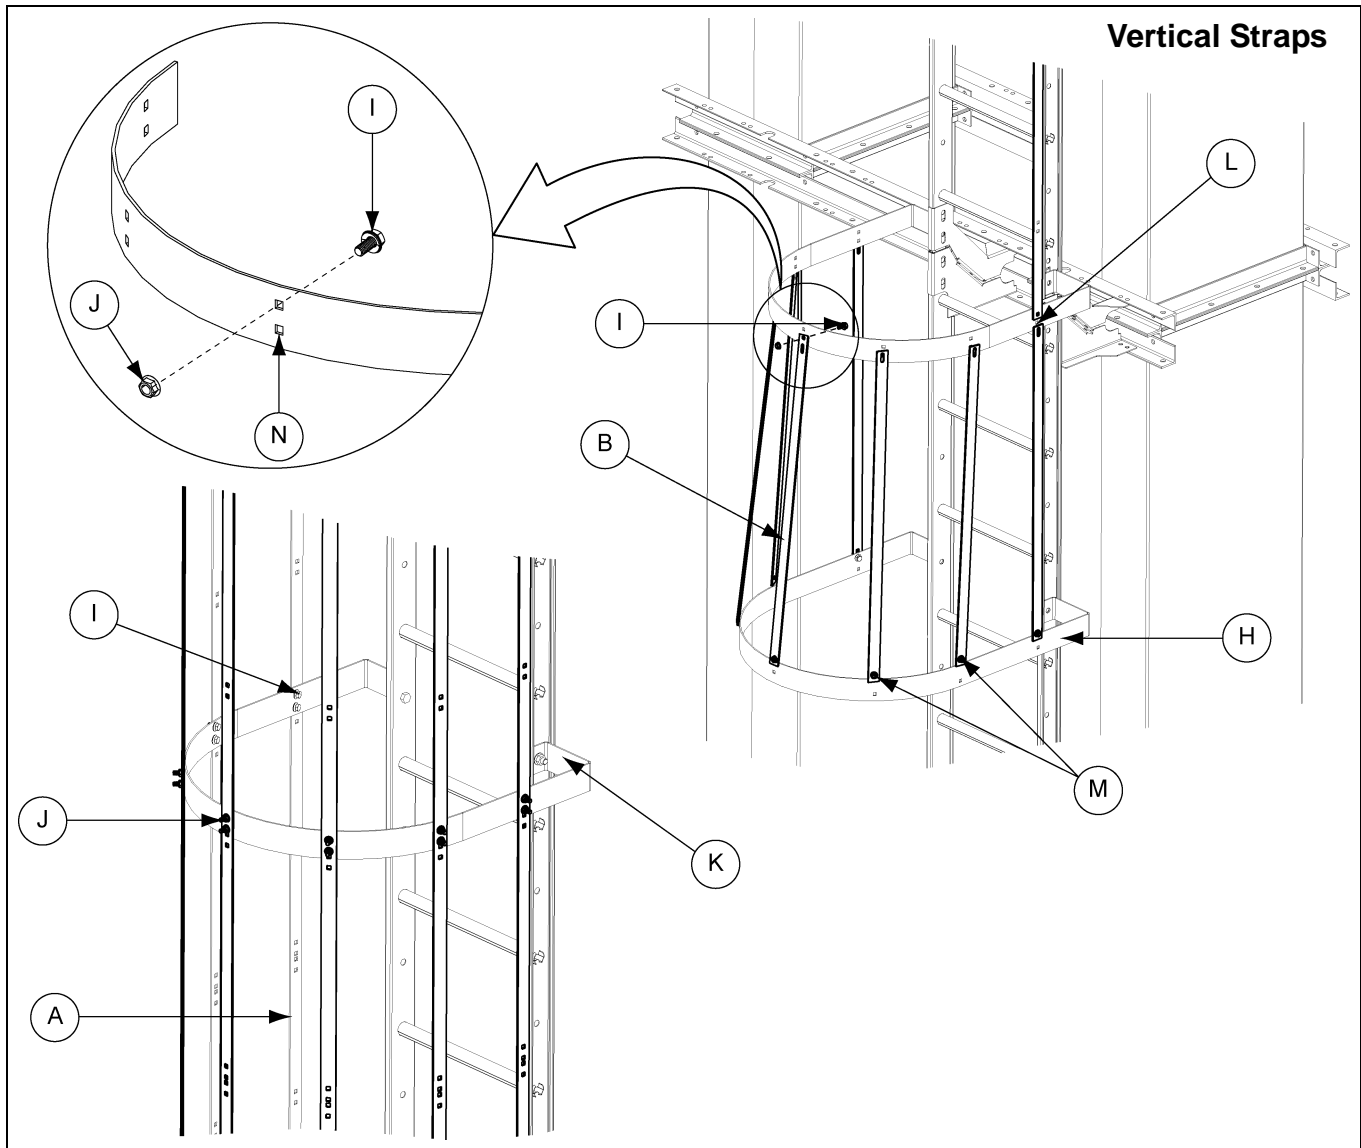

Figure 6Q
3. Install the seven (7) 10' safety cage straps (LDR-10FTCAGE) (A) along the safety cage hoops using 5/16" x 3/4" bolts (S-7645) (I) and nuts (S-3611) (J). **NOTE:** Bolt heads should be to the inside of the hoop. (See Figure 6Q.)